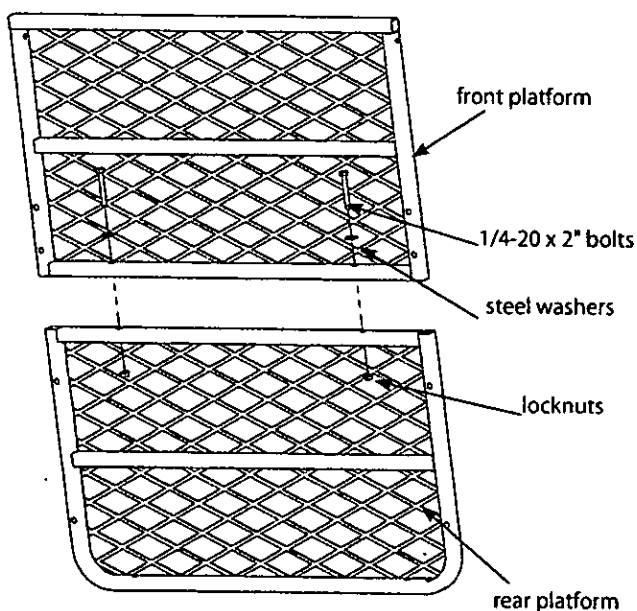

Figure 1
1. Attach the front platform (410083) and the rear platform (410086) together using (2) provided 1/4-20 x 2" bolts, locknuts and steel washers. SEE FIGURE 1. DO NOT tighten all nut and bolt assemblies completely!